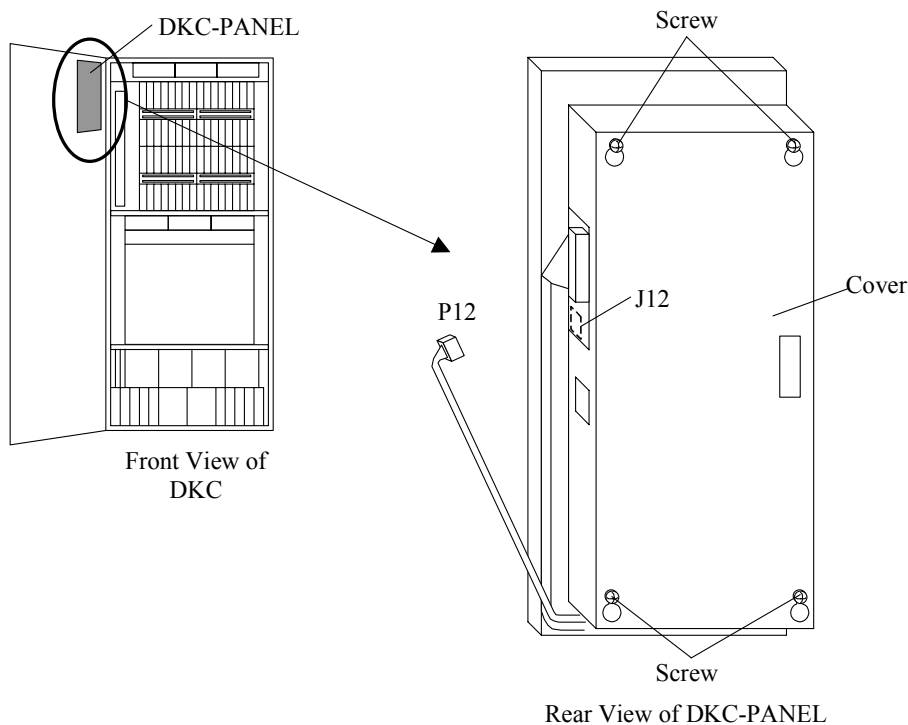

Fig.16-1 Removal of Cable
- e. Connect the cable (P12) to the DKC-PANEL. (Refer to Fig. 16-1)